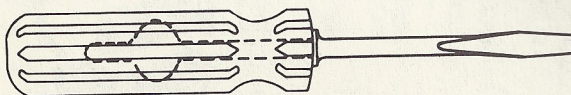

Fig. 2-5
1. The handle should be tight or so made that the shaft cannot turn inside it. Most servicemen prefer an insulated screwdriver handle that is made of plastic and molded around the blade. To prevent the shaft from turning in the handle, the end of the shaft may be formed with wings, as in Fig. 2-5, or it may be square or flattened at the end.
2. Grip the handle of the screwdriver before you buy it, to see if it fits the hand comfortably. The handle shown in Fig. 2-5 is very popular with servicemen because of its non-slip grip.